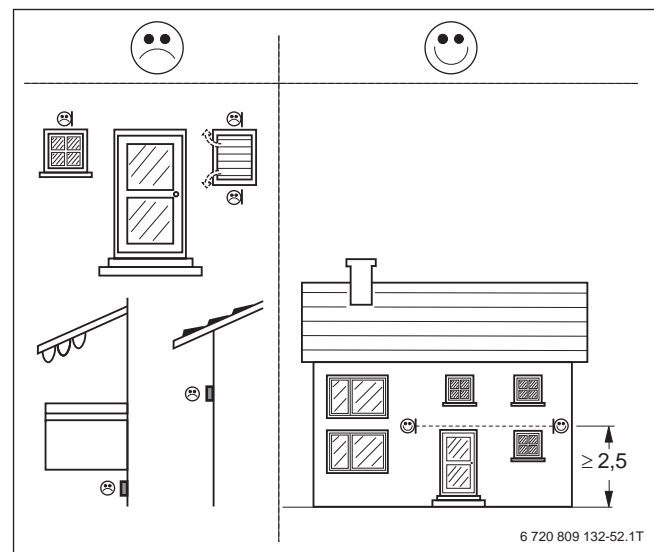

Fig. 94 Arrangement of the outside temperature sensor (dim. in mm)
- below awnings, balconies or roof eaves (→ Fig. 94)